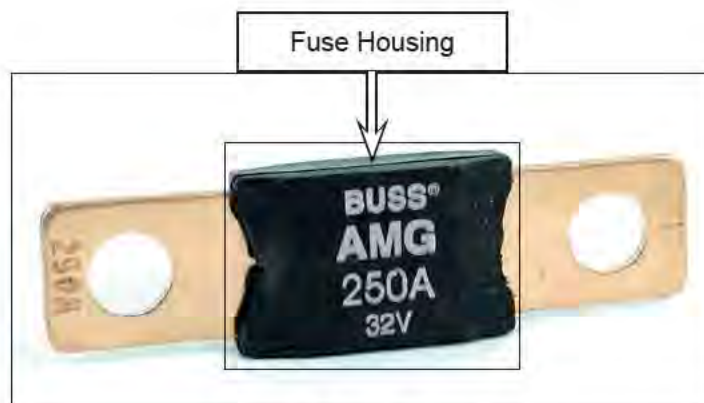

Figure 4 - Fuse N47759-250
- 1.14. Inspect the fuse for any visible sign of overheating on the fuse housing or any other significant damage. See Figure 4.